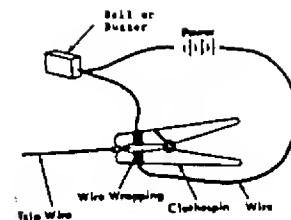

Figure 384 Pull Release Device Booby Trap
4. A "Pull Release Device" could easily be made with a "clip" type clothespin as shown in Figure 384. The wooden wedge between the contacts of the jaws is the only break in a circuit connecting the buzzer and battery. Pressure on the trip wire pulls out the wedge and completes the circuit causing the buzzer to buzz.